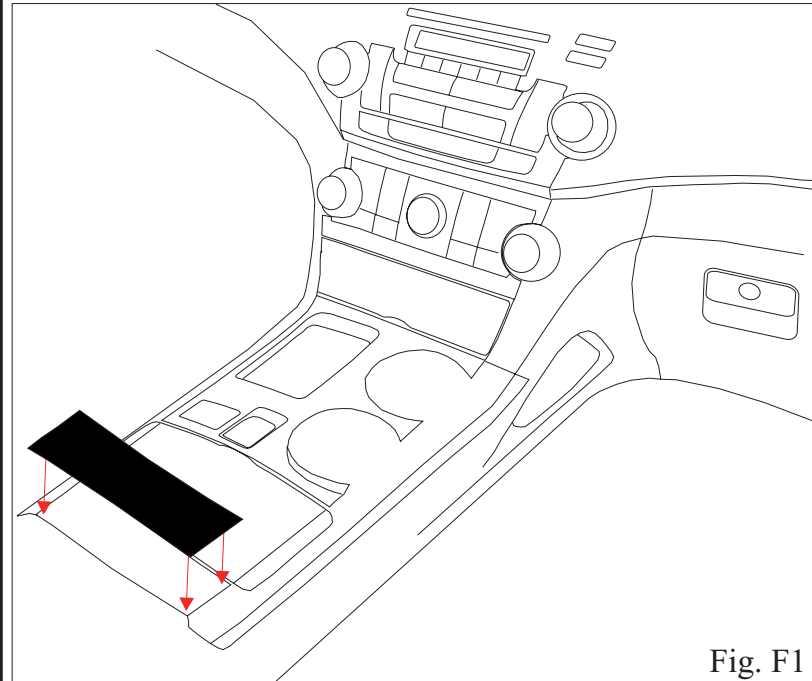

Fig. F1
A. Align part uniformly to edge of factory components. Edge of appliqué should be flush to edge of factory component,  $\pm 1.0\text{mm}$ . (Fig. F1).